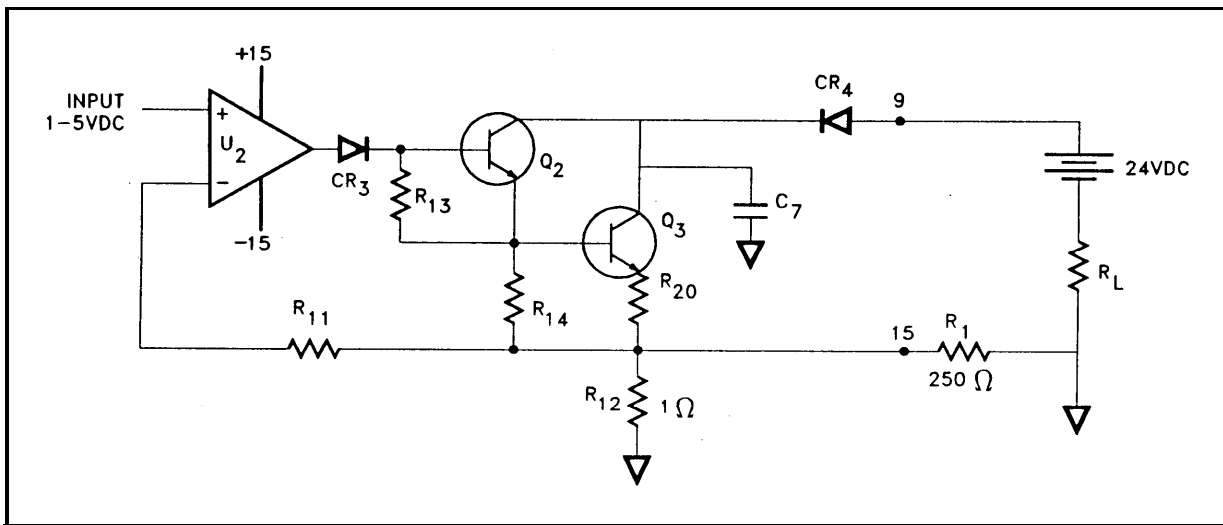

Figure 17 Example 2
Refer to Figure 17 to answer the following:
**Answers** to questions on Figure 17